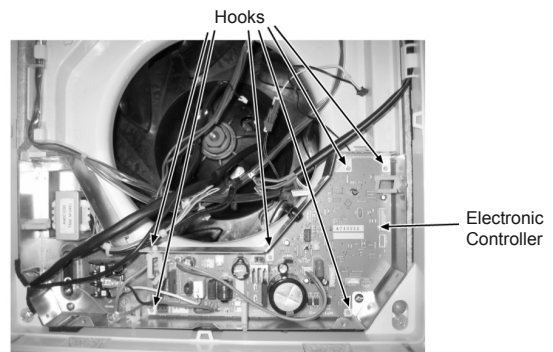

Fig. 4
- 4 To remove the Electronic Controller, release the 6 hooks that hold it to the Control Board (Fig. 4).